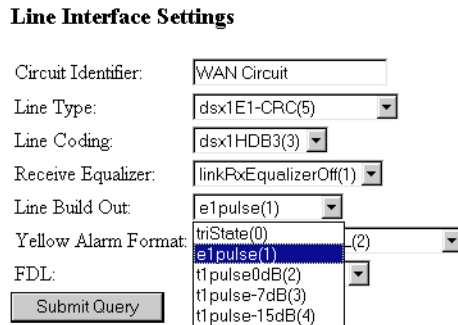

Figure 42. Line Build Out pull-down menu with e1pulse(1) selected
- From the *Line Build Out* pull-down menu (see figure 42) select *e1pulse(1)*.